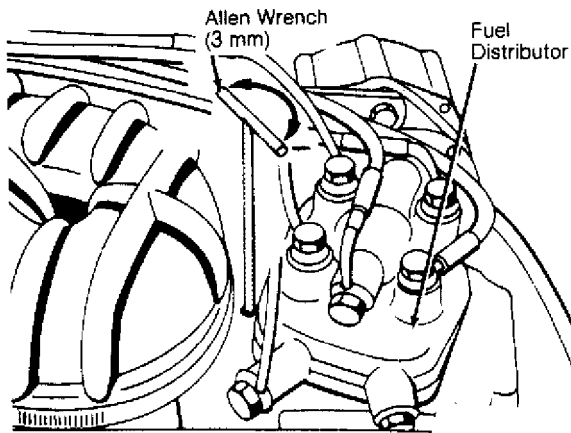

Fig. 4: Adjusting Idle CO (CIS-E)
12) Start engine and run at idle. Adjust current reading to 10 mA by turning CO adjustment screw with Wrench (P 377). Turn screw clockwise to lower reading, counterclockwise to raise reading. See Fig. 4.